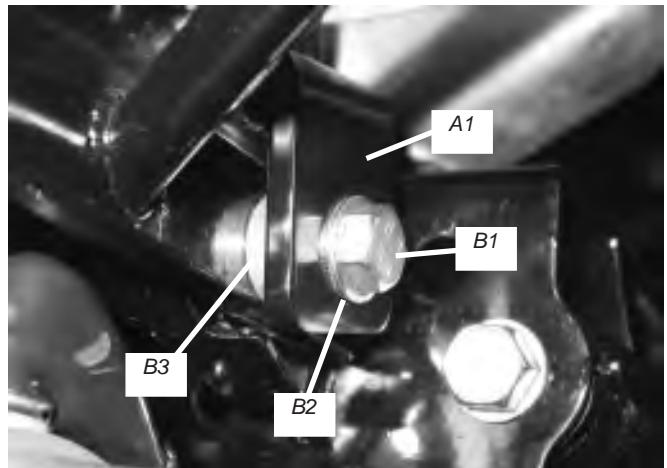

Figure 12 Bolt and Spacer Location
13. Install two of the supplied 8mm-1.25 x 30mm bolts (B1) and flat washers (B2) into the middle bumper mounting location. Place the supplied spacer (B3) into position between the ATV frame and the winch mounting bracket tab, figure 12. Do not tighten at this time.